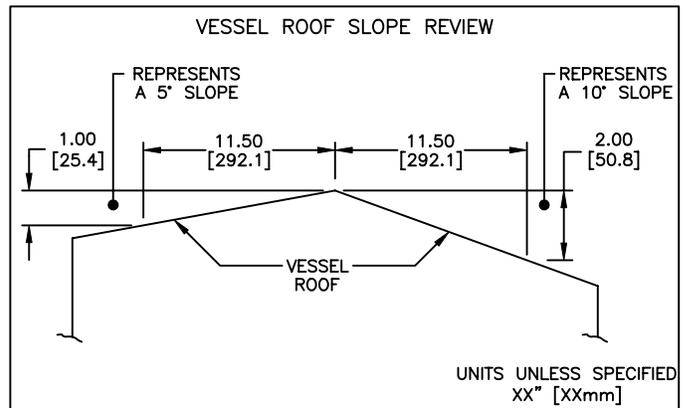

Figure 1
**Choosing a Location for SMU** (See Figure 1 and 2)
- 3) Plumb** - The SMU must be mounted plumb (perpendicular to the ground) within 1 degree. Do not mount the SMU on an angle. Install an adapter or consider use of a 5 degree or 10 degree flange which can be supplied by Monitor. If the angle of the roof is unknown, use Figure 1 to approximate. Each 1 inch (25.4 mm) of drop per 11.5 inches (292 mm) of horizontal movement represents approximately five degrees.